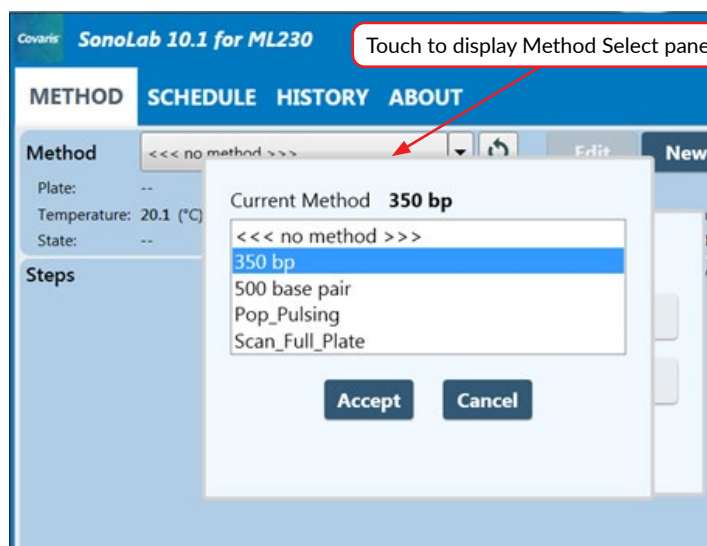

Figure 3.3 Selecting and loading an acoustic method
- b. To select and load an acoustic method, touch the “Method” bar, as shown in Figure 3.3, to display the Method Select pane. Navigate through the list with the vertical scroll bar, if necessary, and select a method.